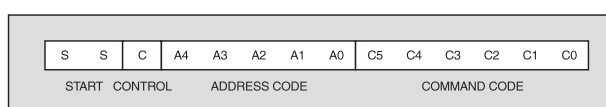

Fig.6. RC5 code format.
The arrangement of the 14-bit code is given in Fig.6. The first two bits (S) of the transmission are Start bits and are always transmitted as logic 1. This allows the IR receiver to adjust its automatic gain control to suit the infra-red signal strength. The Control bit (C) toggles whenever a new key is pressed, or if a key is held down and a repeated transmission is made every 113 milliseconds.